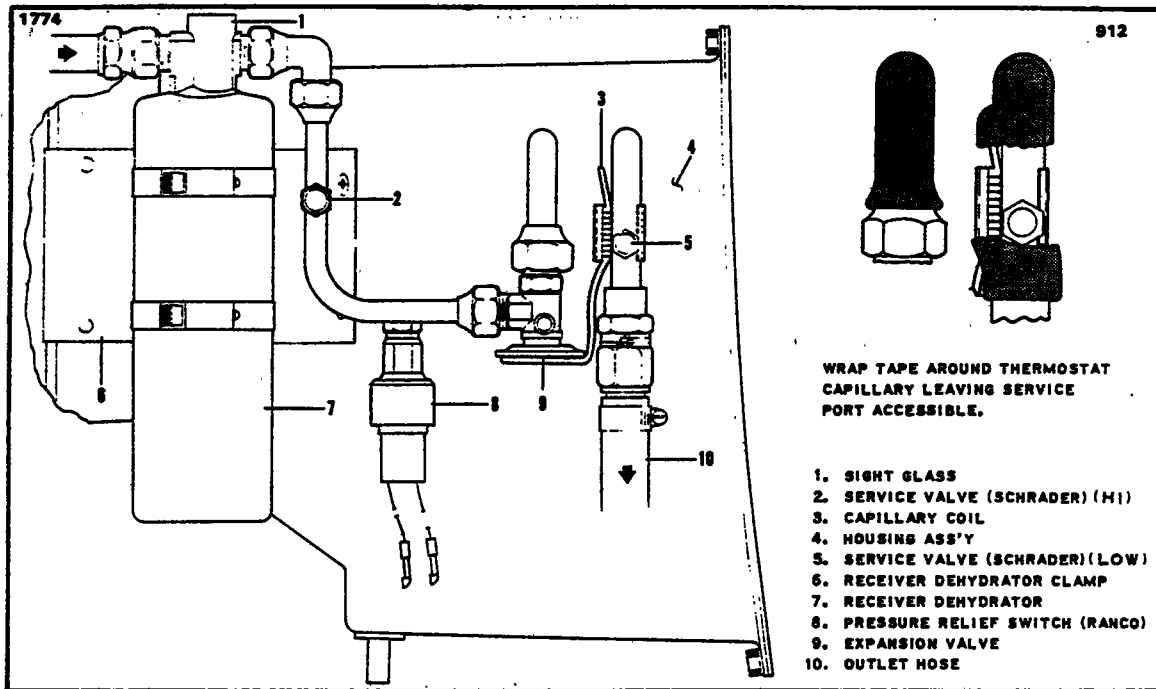

Figure 14-14. Components Installation
- i. Make and check electrical connections. (Refer to Figure 14-14.)